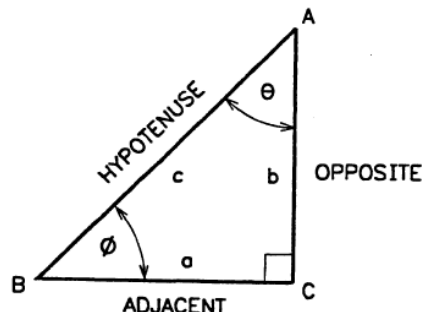

Figure 5 – The trigonometrical names of the sides of a right triangle
11. For trigonometrical purposes, the sides of a right triangle are given general names with respect to a specified internal reference angle. The longest side (the side opposite the right angle) is always called the HYPOTENUSE (HYP). The side opposite the reference angle is called the OPPOSITE (OPP), and the side next to the reference angle is called the ADJACENT (ADJ). Figure 5 shows the trigonometrical names of the sides with respect to the angle ϕ .